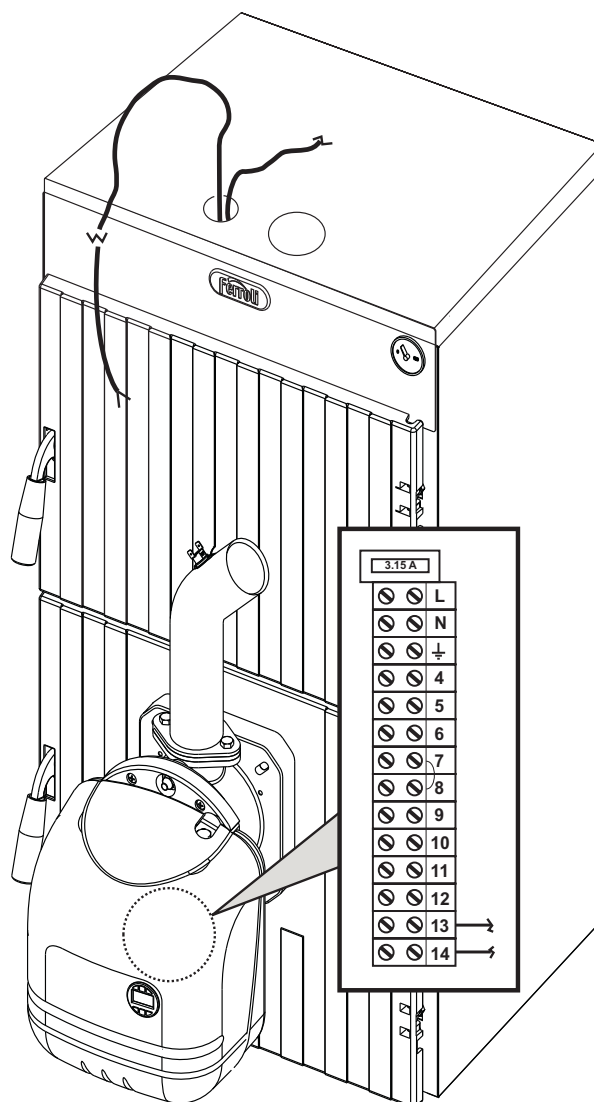

fig. 11
- Position the boiler cover and run the cable through the hole as indicated in fig. 11.